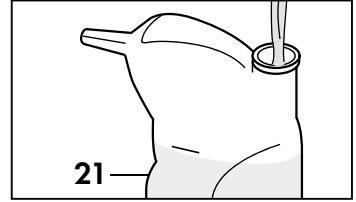

Fig. 6
Fill the bottle (21) with tap water (Fig. 6).